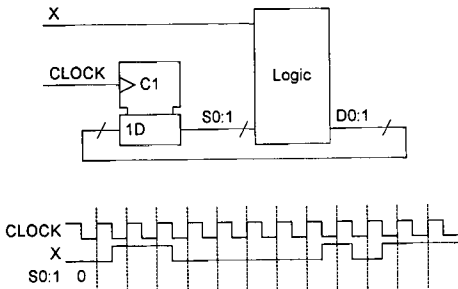

Figure 1
1. Figure 1 shows the circuit of a synchronous state machine having a single input signal, X and a state defined by the 2-bit binary number S0:1.
- (c) Complete the timing diagram of Figure 1 by showing the sequence of states followed by the circuit. The circuit is initially in state 0 as shown in the diagram. [4]